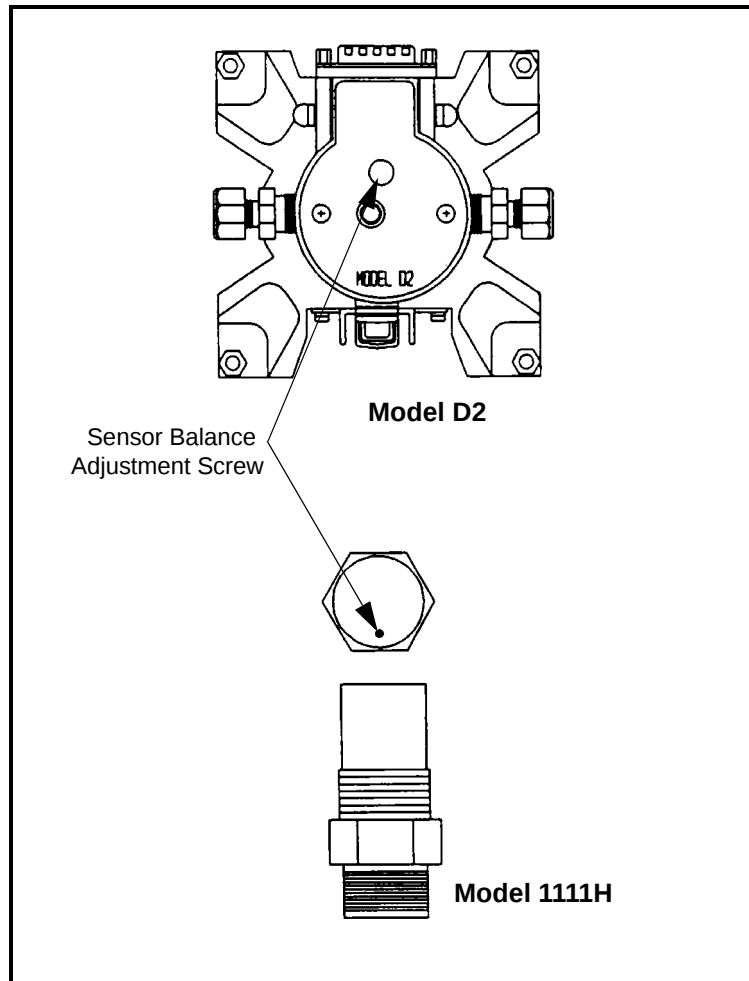

Figure 5-1: Balance Adjustment Screw Locations
Set the **SENSOR** switch to **HEAT**, wait one minute, then observe the green bar segment display. If only the lowest bar is illuminated, the sensor is properly balanced. If not, balance the sensor according the procedure below. The location of the balance adjustment screw for various sensors is shown in Figure 5-1 on page 5-3.
3. If no bars are lit, turn the balance screw on the sensor **COUNTERCLOCKWISE** until only the lowest bar is lit. (Refer to Figure 5-1 on page 5-3.)